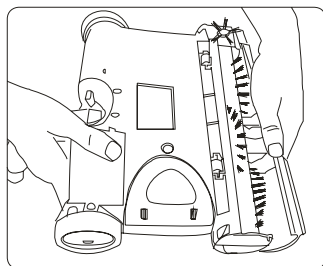

Fig. 12
3. Remove the transparent brush cover. (Fig. 12) (Refer to page 5 for detailed instructions.)